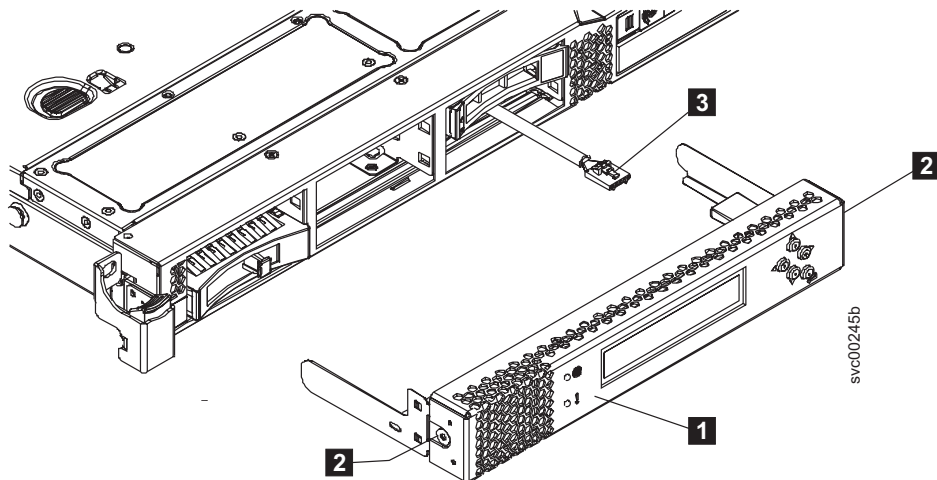

Figure 82. SAN Volume Controller 2145-CG8 or 2145-CF8 service controller (SAN Volume Controller 2145-CF8 shown)
1. When the service controller, as shown by **1** in Figure 82 on page 100, is close enough to the USB cable (**3**), attach the cable to the service controller, if necessary.